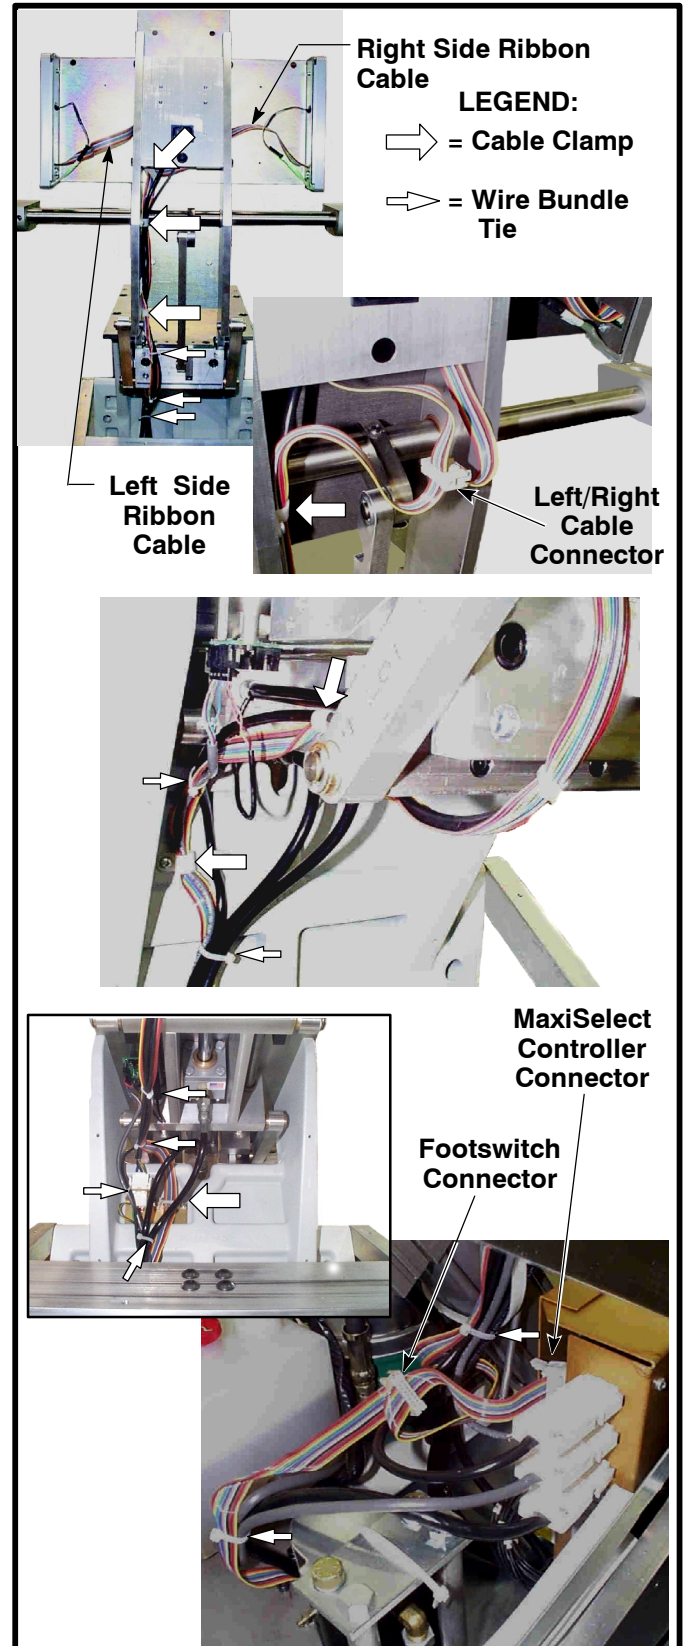

Figure 4-5. Replacing the Ribbon Cable
- 2. Replacing Ribbon Cable:** Once it has been determined that the left side Ribbon Cable is faulty, it should be removed and replaced with a new one. Refer to Figure 4-5 and proceed as follows.